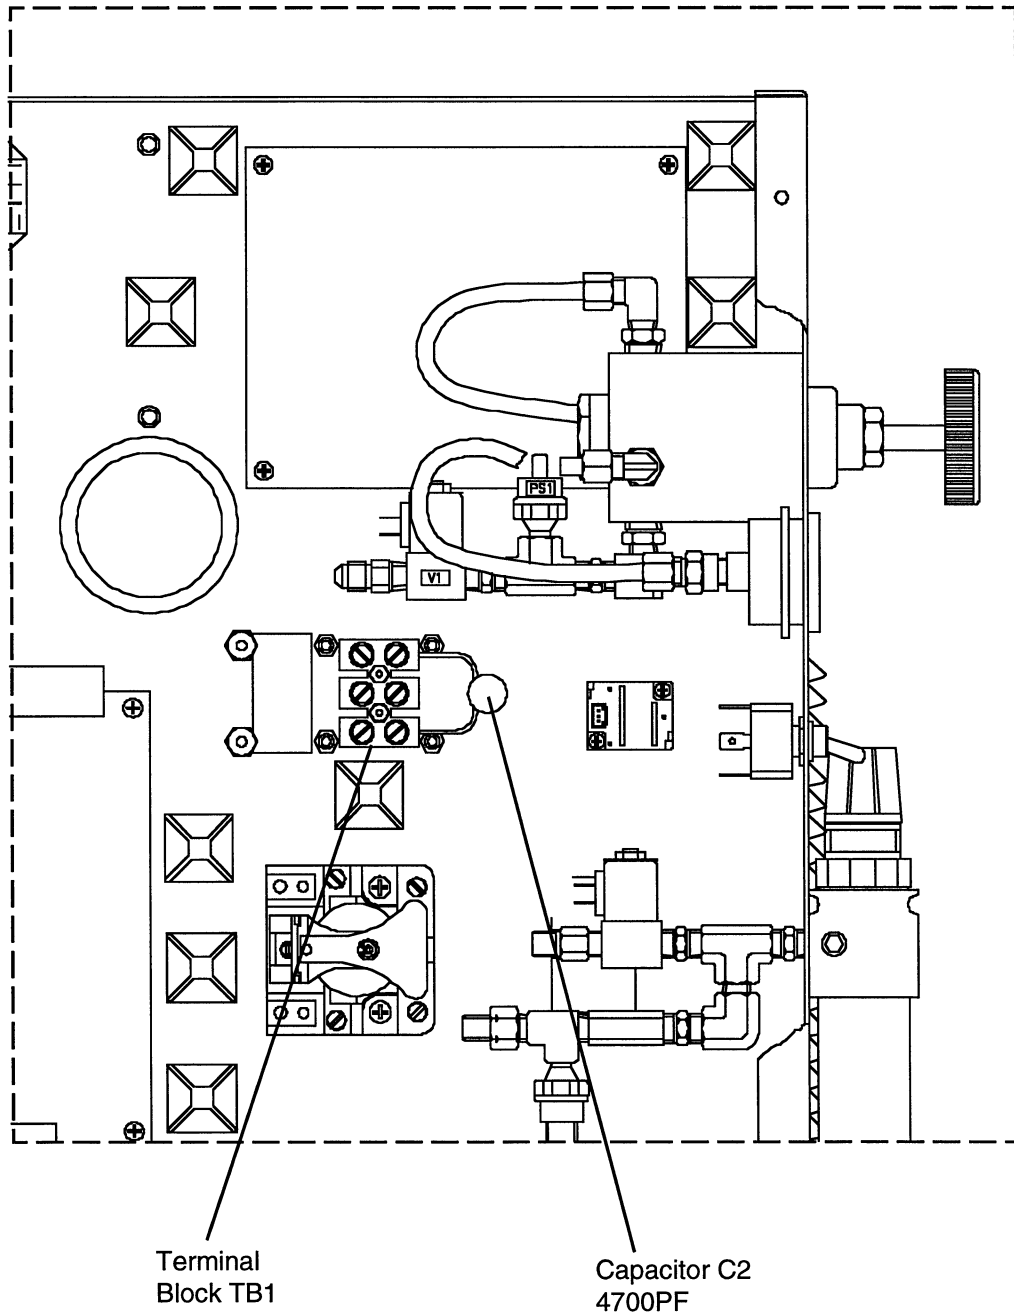

Figure 2 Capacitor C2, 4700PF Installation
8. Insert the wires of the new C2 capacitor into the terminal block receptacles (fig. 2). Reinsert wires number 5 and 9 and tighten the two terminal block screws.